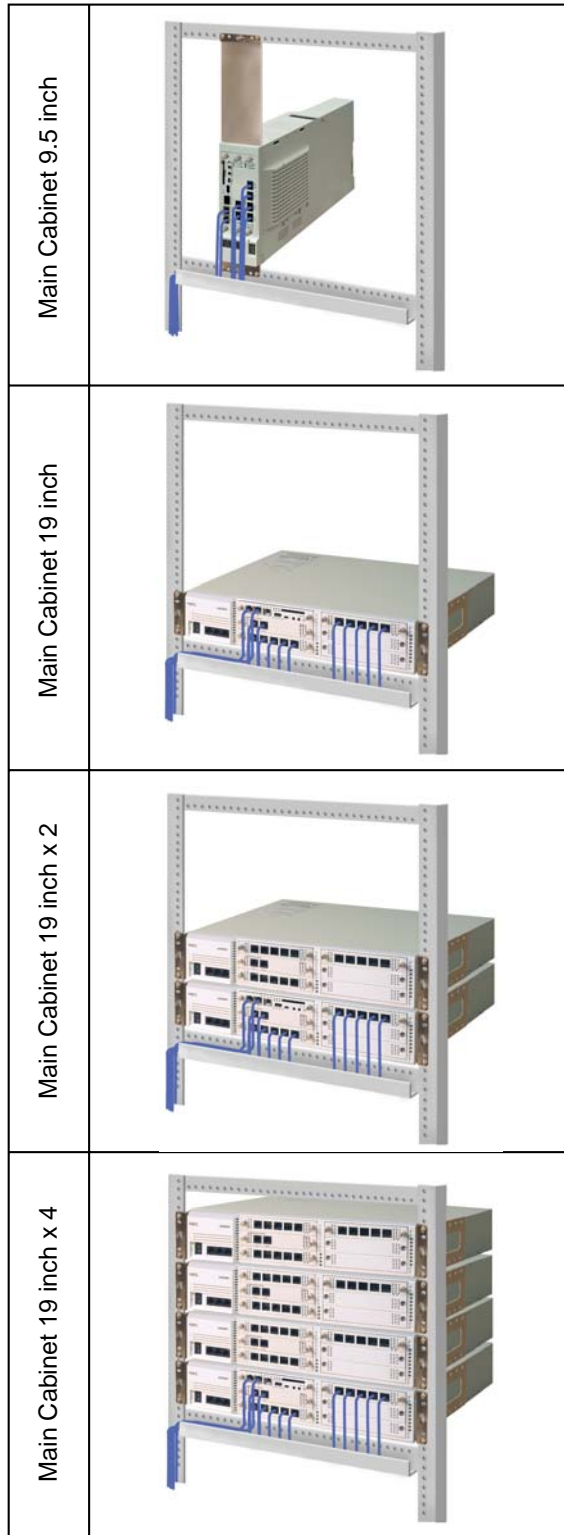

Figure 1-88: INSTALLING THE MOUNTING BRACKET ON THE RACK
1.7.10 Securing the Chassis to a Rack (Figure 1-88 - Figure 1-95)